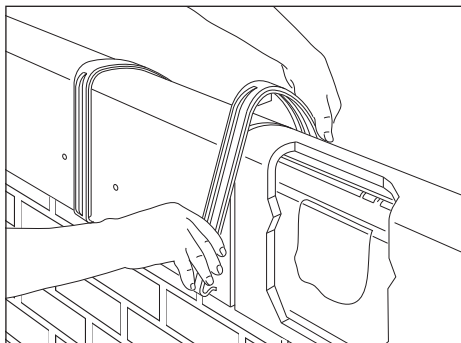

Fig. 13 – Locate mono-ridge union
- 5 Fit ridge unions by clipping front end over circular bead of batten section, followed by back end over bottom edge of mono-ridge tile (Fig. 13).